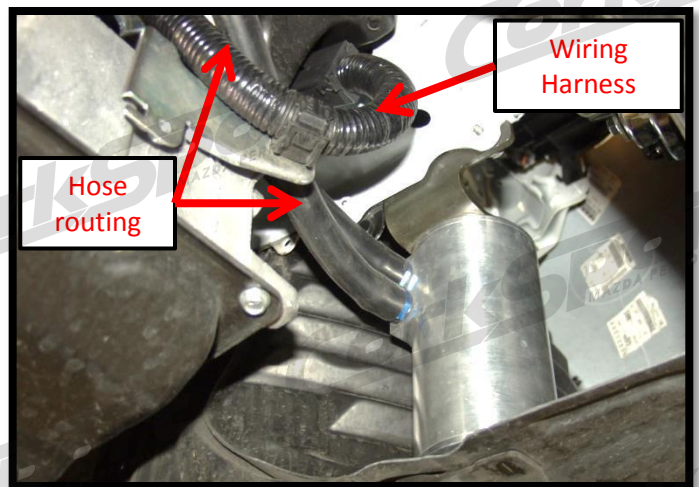

Figure 3e
g) Route the 5' of reinforced hose over the transmission and behind the wiring harness (as shown in Figure 3e).
h) Trim the hose with scissors or similar leaving enough slack to account for engine movement and attach to the catch can (Figure 3e).